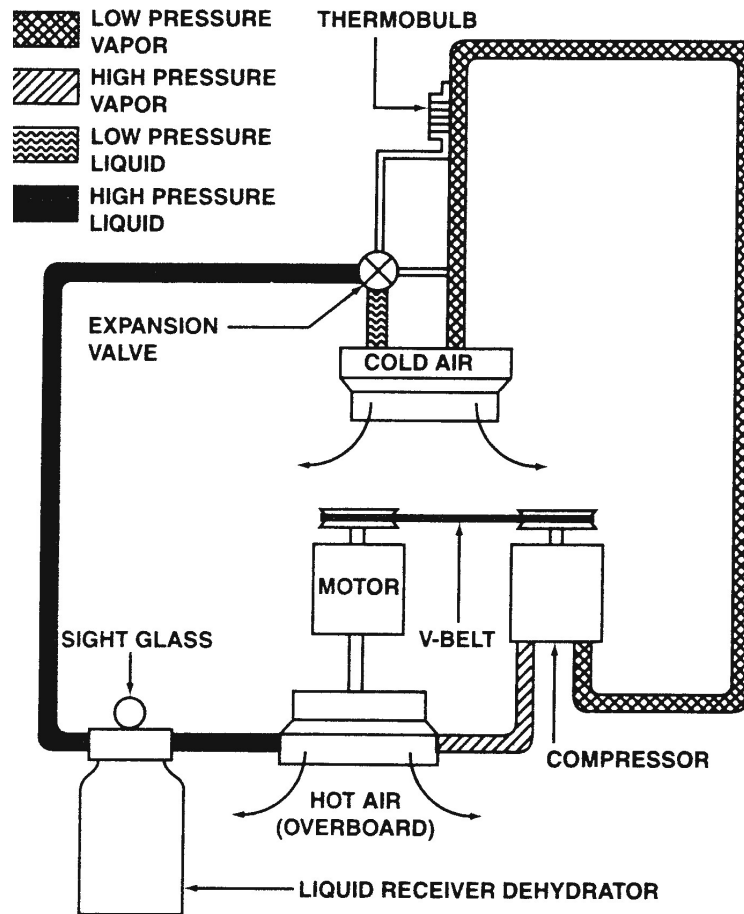

Figure 9.38.
46. (Refer to figure 9.38.) Determine what unit is located immediately downstream of the expansion valve in a freon refrigeration system.